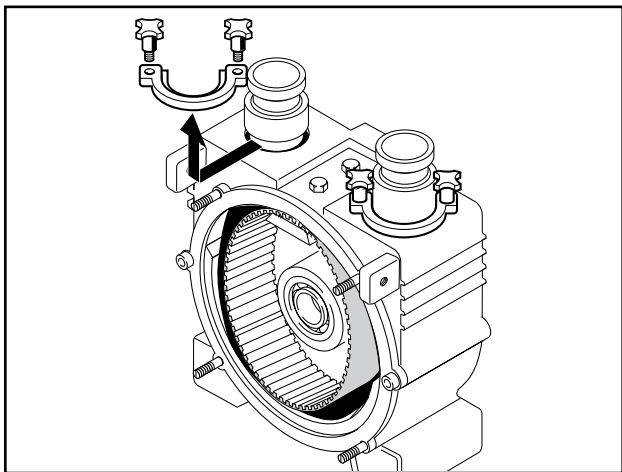

Fig. 17 Disassembly of holding claws
7. Loosen and remove both holding clamps and pumping hose (Fig. 17).